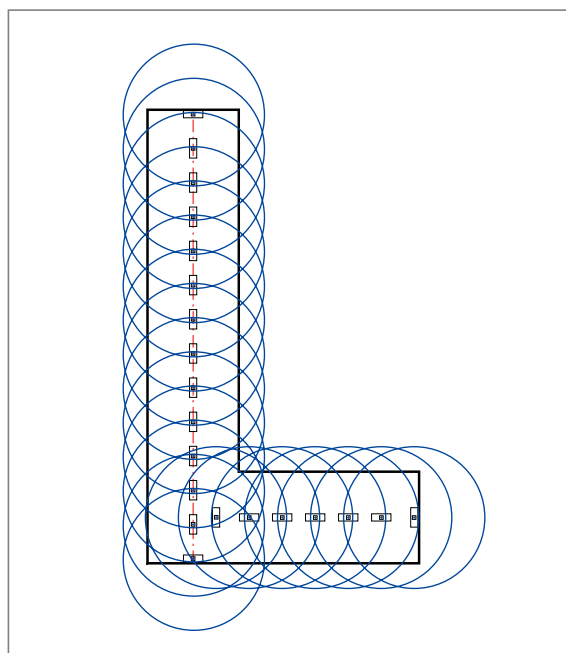

Fig. 36 Light all, incl. corners
3. Spread the rest of the LEDs over the channel letter in a balanced way. Figure 36 illustrates the coverage of the complete channel letter area by the luminous flux from the LED string and reflections against the side of the channel letter.